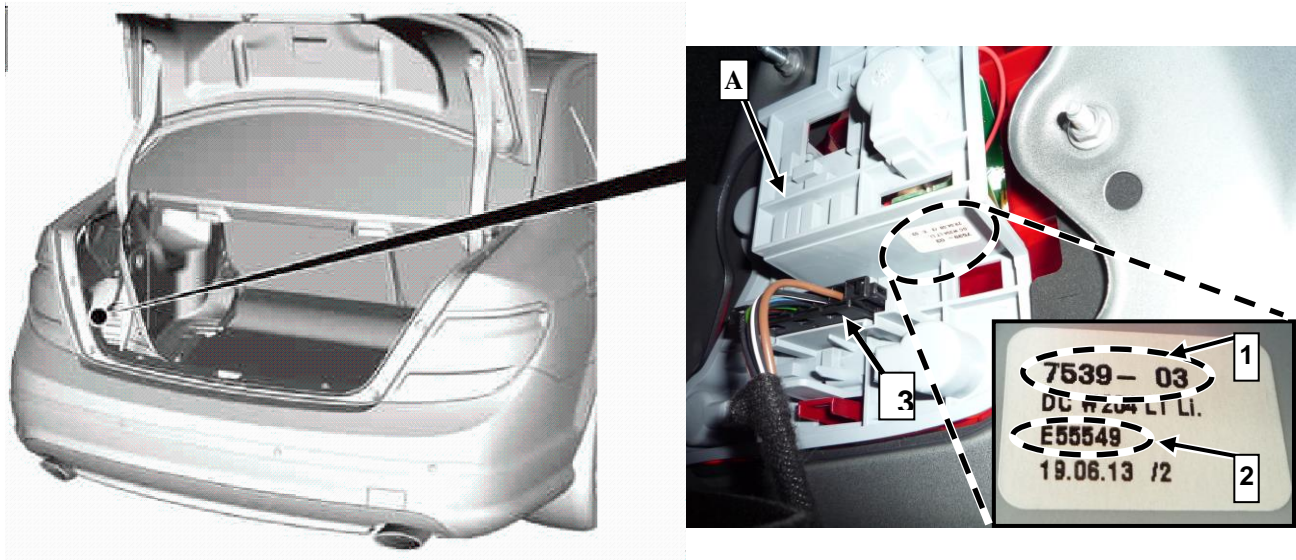

Figure 1
1.  Check object number (1, Figure 1) and index (2) on sticker affixed to lamp carrier (A) on left and right tail lamp:
- If object number (1, Figure 1) and the index (2, Figure 1) are **not** present (on sticker) as specified in the table below (**NOT OK**): Proceed to Subject B.
- If object number (1, Figure 1) and the index (2, Figure 1) **are** present on sticker as found in the table below (**OK**): Procedure is complete.